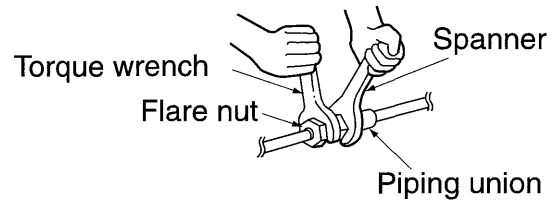

Fig. 9
- Be sure to use both a spanner and torque wrench together, when connecting or disconnecting pipes to/from the unit. (Refer to Fig. 9)